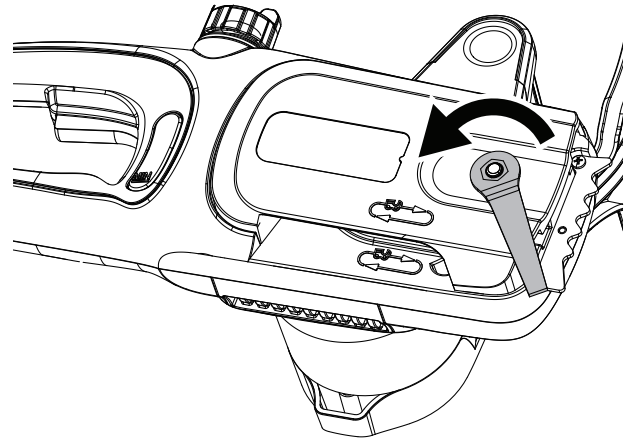

Fig. 19
2. Use a hexagon wrench to turn the saw's screw anticlockwise to (Fig. 19) to remove the cover from the saw's body.